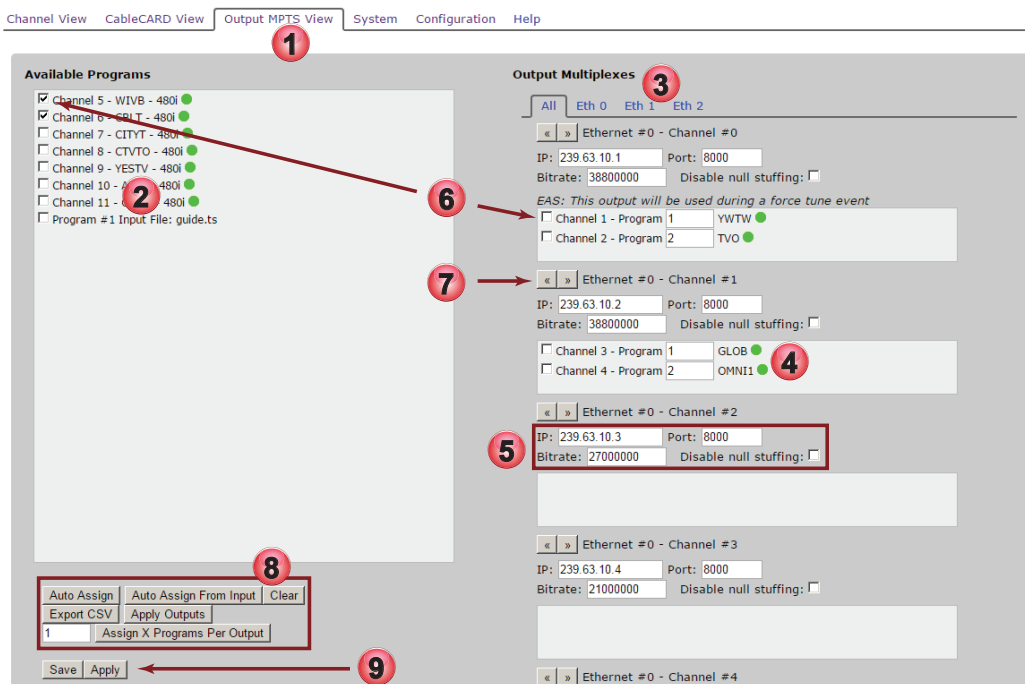

Figure 5-3: Output MPTS View - IP Outputs
1. Click the **Output MPTS View** tab on your IP output type Device to find this page, Figure 5-3.